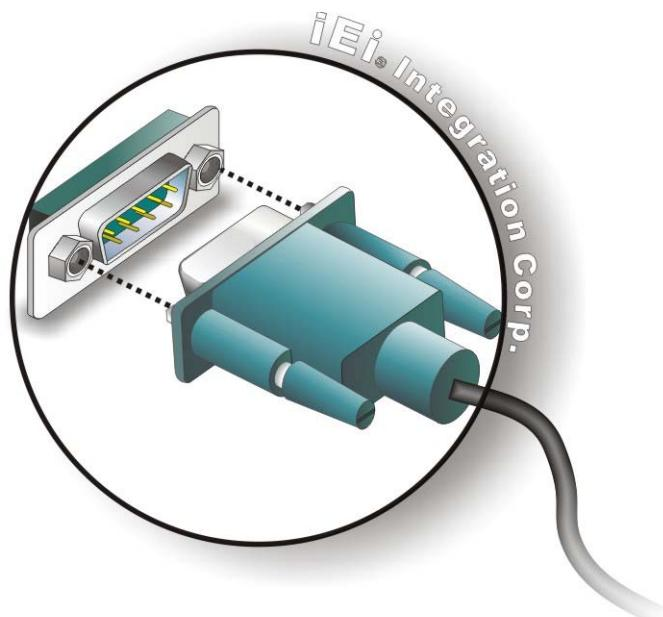

Figure 4-11: Serial Device Connector
**Step 2: Insert the serial connector.** Insert the DB-9 connector of a serial device into the DB-9 connector on the external peripheral interface. See Figure 4-11.